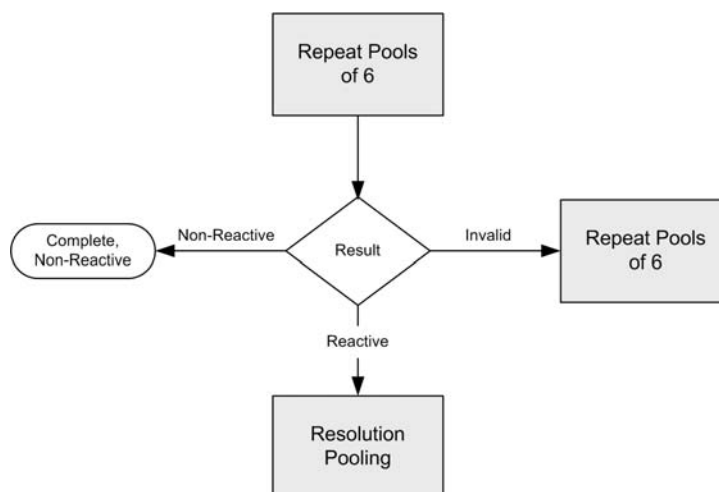

Figure 1.3
- A Repeat Pool of 6 (Figure 1.3) is scheduled if test results are invalid.
Repeat Pools of 6 are tested for the presence of the screening analyte(s) (Figure 1.3).